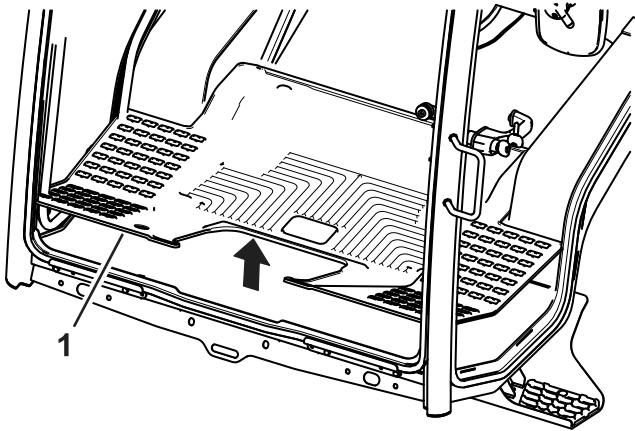

Figure 10
1. Remove the rubber floor mat (Figure 10).